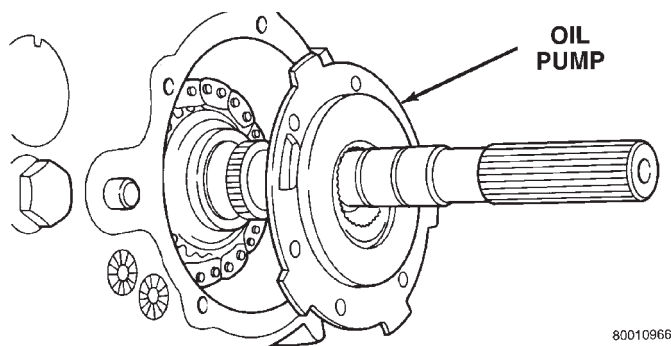

Fig. 11 Oil Pump Removal
(8) Remove rear bearing O.D. retaining ring with snap ring pliers. Then tilt pump and slide it off output shaft (Fig. 11)